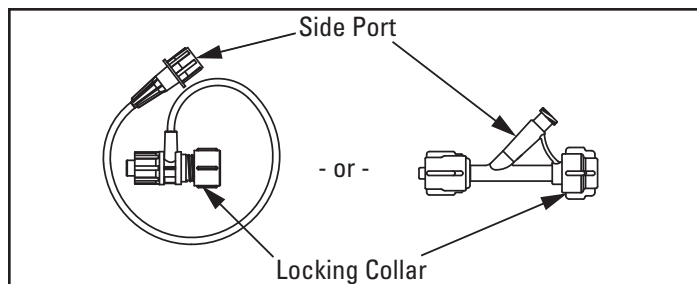

Figure 2. Flush Assemblies
- Attach flush assembly to catheter hub. Ensure locking collar is in open position (Figure 2).